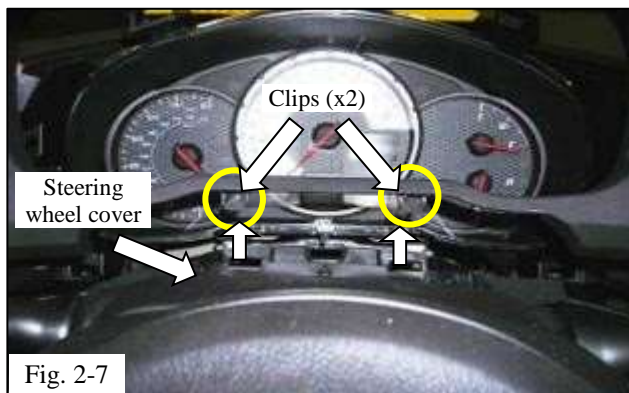

Fig. 2-7
(2) Separate the 2 clips between the instrument cluster bezel and the upper steering wheel cover to remove the instrument cluster bezel (Fig. 2-7).